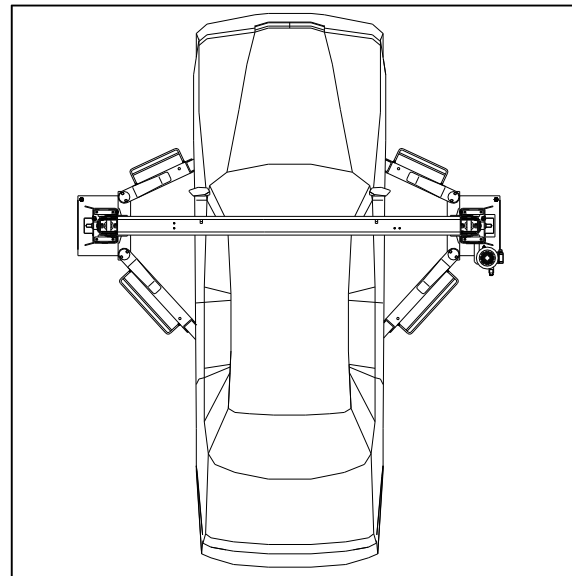

Fig. 10 Correctly Loaded Vehicle
It is important to position the vehicle on the lift so that the weight is correctly distributed on the arms. (Fig. 10) For person and equipment safety, it is important that:
- ◆ The vehicle is correctly positioned. (Fig. 10)